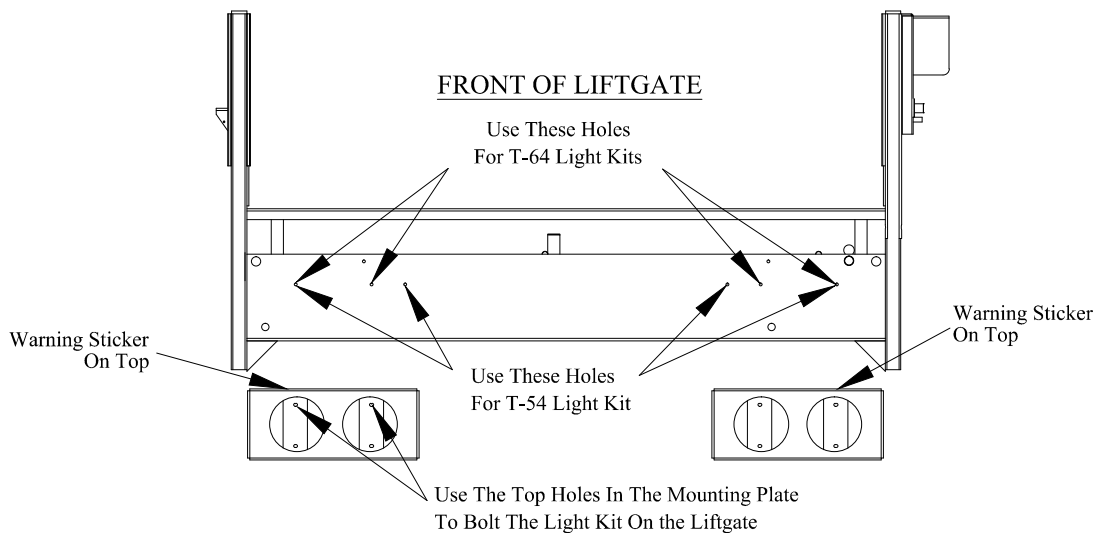

Figure 8: Light kit mounting holes.
**2. Loosely Attach** each enclosure to the mainframe using one (1) 1/4-20 nut and bolt through the upper hole of each mount plate (Figure 8).